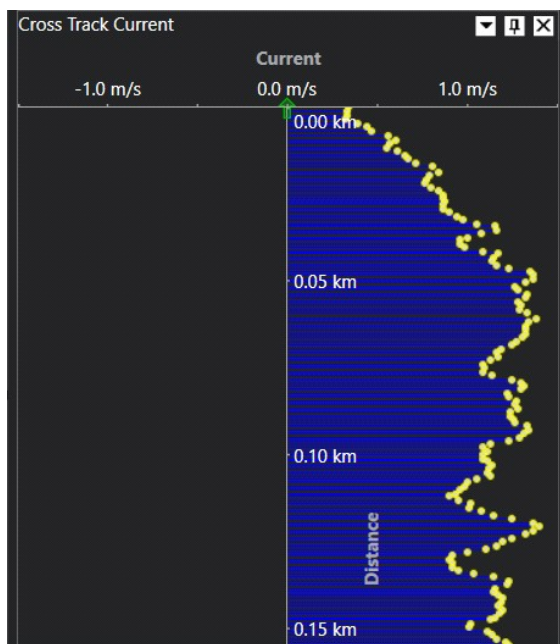

Figure 37: The cross track current window
Figure 37 shows the cross track current window. It shows the component of the current perpendicular to the ship's track. The positive direction is a current component from left to right across the track (facing in the direction of travel).
- The current value that shows in the top axis is the value that corresponds to the cursor location, not the cross track current value at the selected distance. (On-screen you can see this better, as a vertical line goes through the cursor position and ends at that value. This line, and the cursor itself, do not show in the screenshot of figure 37.)